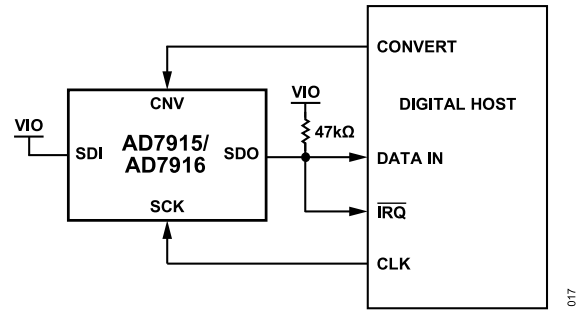
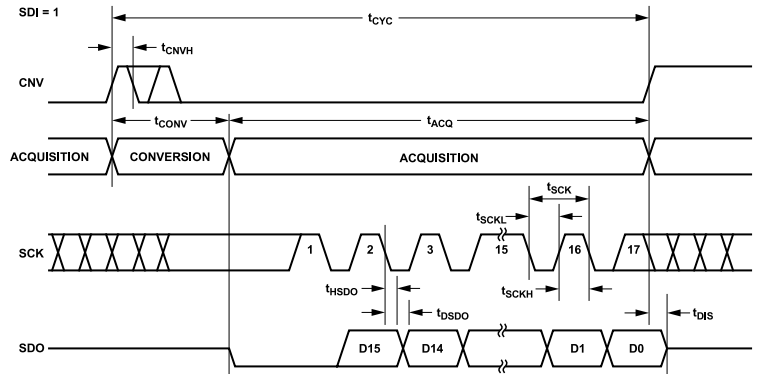
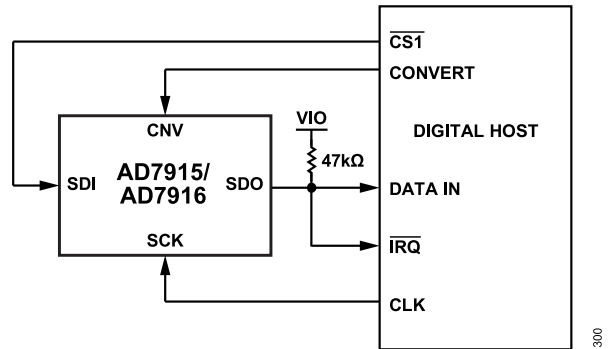
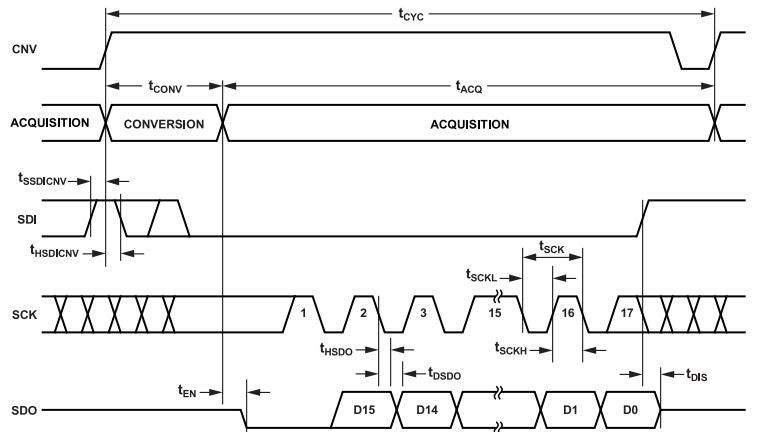

Figure 36. 3-Wire, \overline{CS} Mode with Busy Indicator Connection Diagram (SDI High)
Figure 37. 3-Wire, \overline{CS} Mode with Busy Indicator Serial Interface Timing (SDI High)
Figure 40. 4-Wire, $\overline{\text{CS}}$ Mode with Busy Indicator Connection Diagram
Figure 41. 4-Wire, $\overline{\text{CS}}$ Mode with Busy Indicator Serial Interface Timing
- ▶ in $\overline{\text{CS}}$ mode if CNV or SDI is low when the ADC conversion ends (see Figure 37 and Figure 41).
The connection diagram is shown in Figure 36, and the corresponding timing is given in Figure 37.
The connection diagram is shown in Figure 40, and the corresponding timing is given in Figure 41.